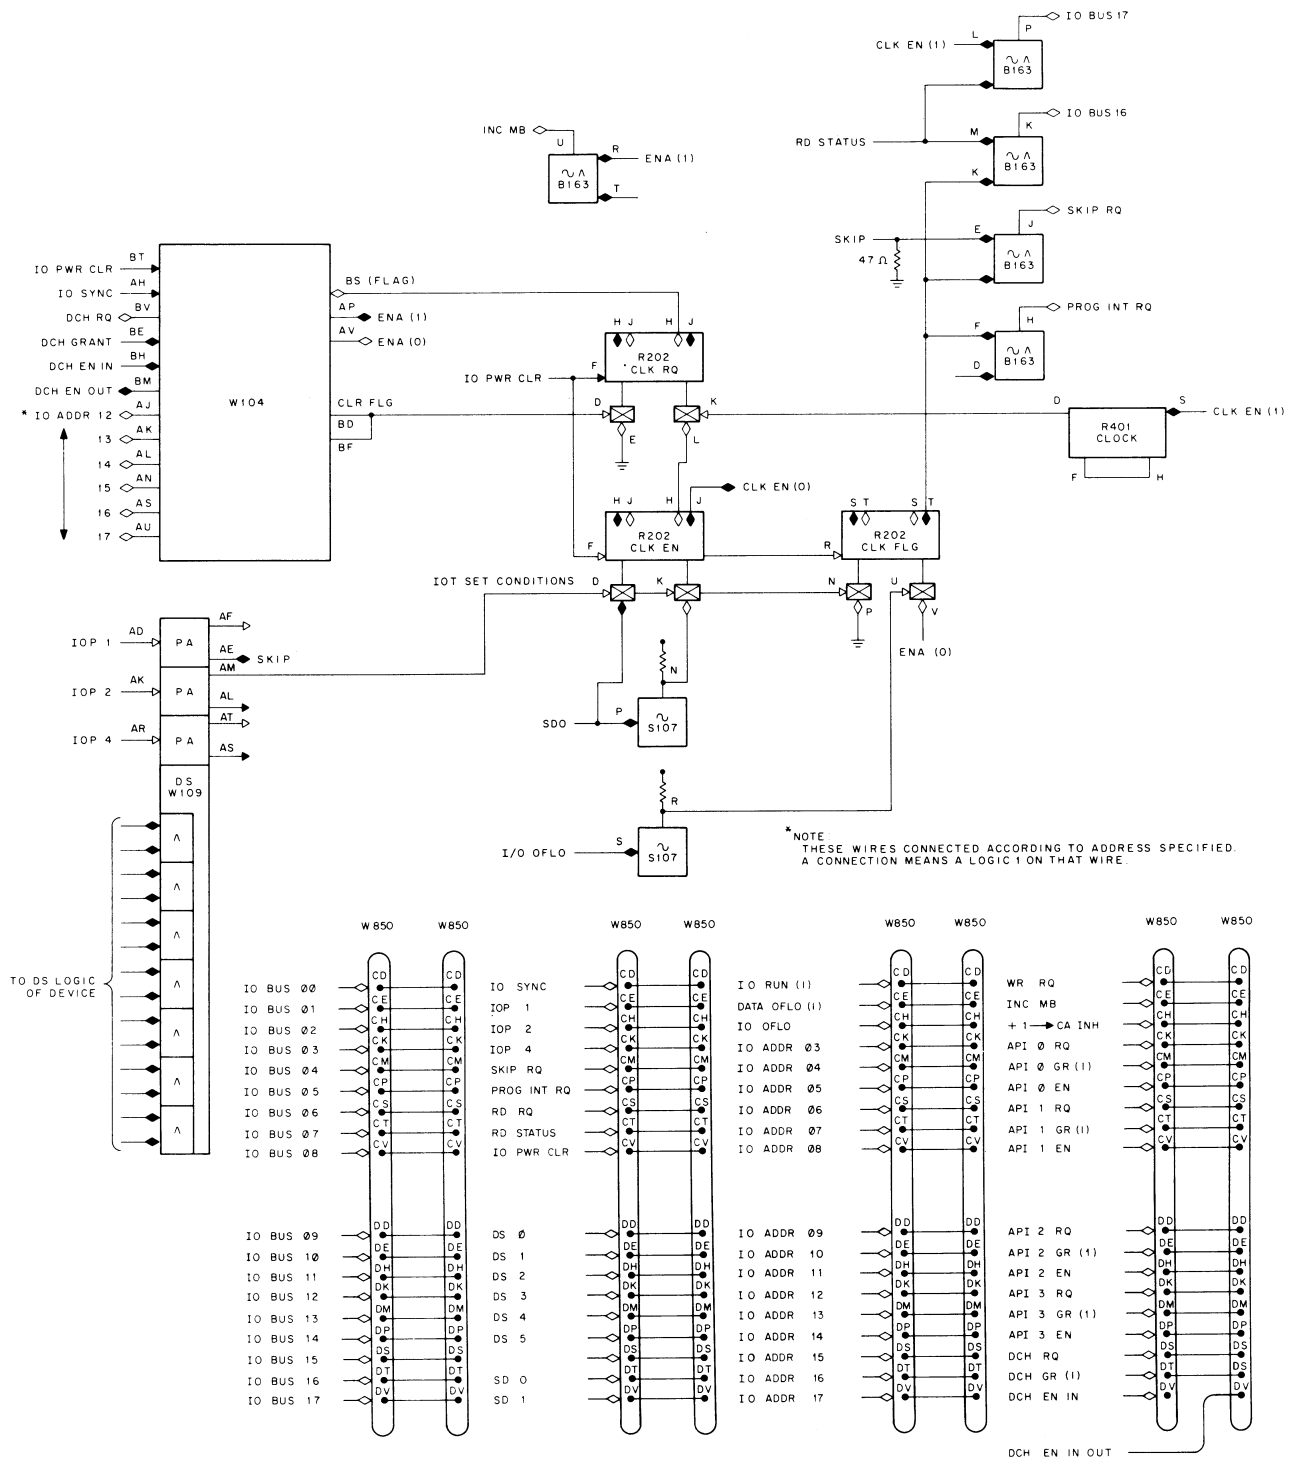

Figure 3-13 DCH Clock Using Memory Increment
3.4.6.1 Incremented Memory - The memory increment operation (Figure 3-13) is the first cycle only of a channel transfer. The word specified on the I/O ADDR lines is incremented. Maximum rate is 250,000 increments per second on the PDP-9 or 165,000 on the PDP-9/L, unless some latency condition interferes. A typical interface circuit using the increment memory facility is shown in Figure